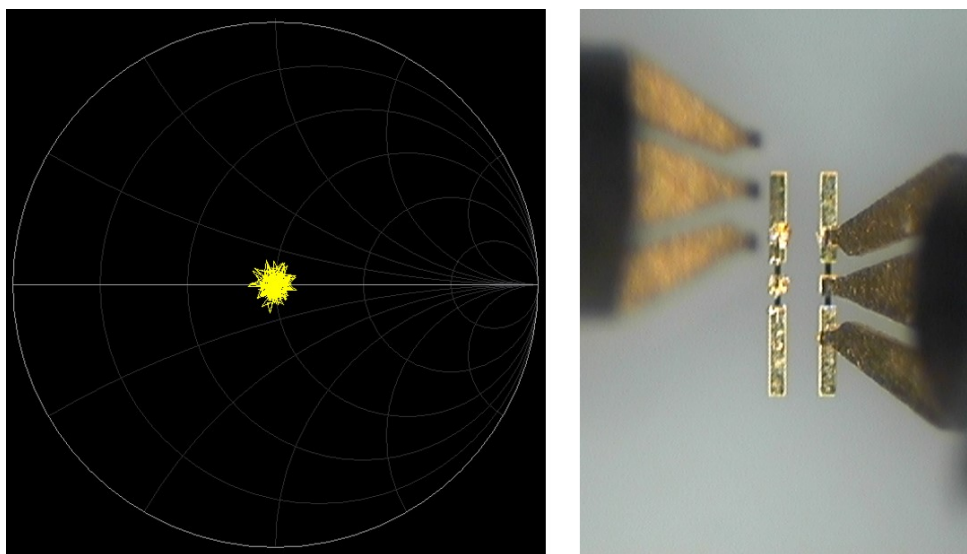

Figure 8: As soon as the probe contacts a 50Ω standard, corresponding change is instantly observed on VNA
- You should simultaneously look at the camera capture as well as the VNA to know the probe has made contacts with the DUT surface. For example, Figure 8 shows that as soon as your port 2 probe touches the 50Ω standard, you should obtain the Smith Chart on the right.